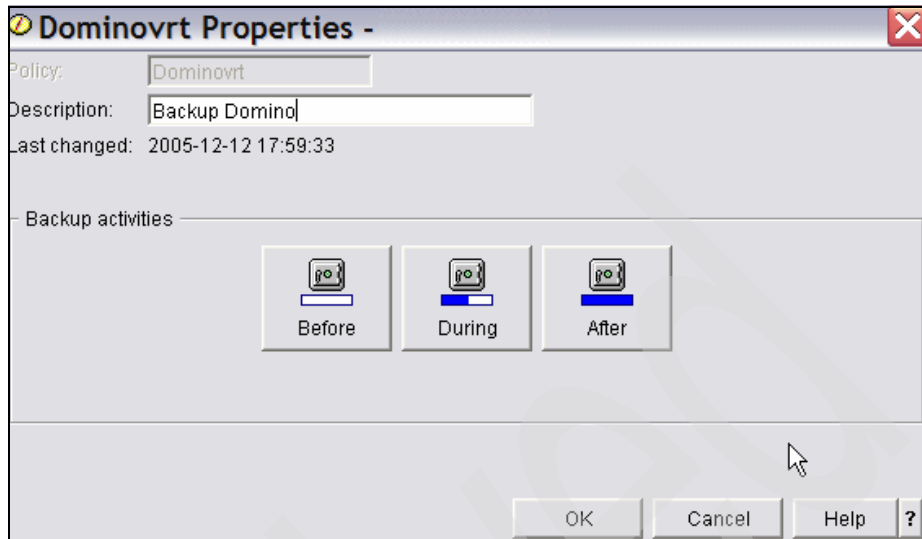

Figure 5-64 BRMS move policy change, Before-During-After Save window
12. Since there are no more changes, click **OK** in the Properties window shown in Figure 5-64 on page 250.